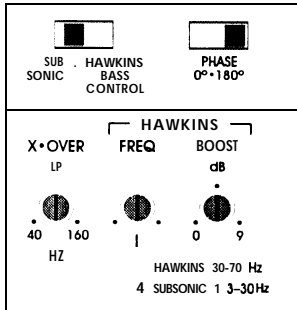

FIG. 1 BASS CONTROL
**The frequency control (Hz)** adjusts the starting point of the subsonic filter. On the RUBICON501/ the high pass filter has two frequency ranges. When the bass control switch is set to "SUB SONIC", the high pass filter frequency can be adjusted from 13 Hz up to a maximum of 30 Hz. In this setting, no boost "Q" control is available. This control is useful for setting the lowest frequency that your subwoofer will see (see figure 1). When the bass control switch is set to "HAWKINS BASS CONTROL", the high pass filter frequency can be adjusted from 30 Hz to a maximum of 70 Hz. In this setting, there is an available boost control of 0 to +9 dB.